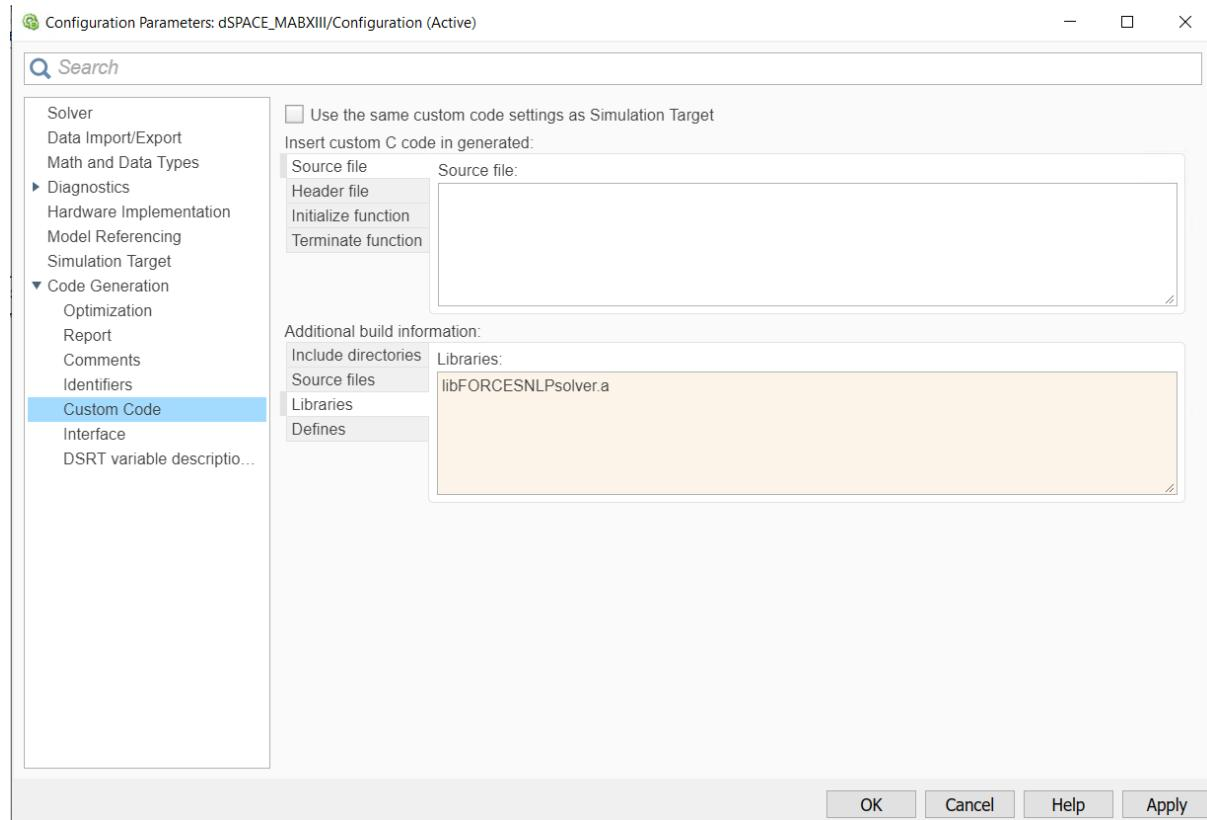

Figure 13.68: Add the libraries used for the code generation.
- 12) In the “Code Generation/Custom Code” tab, add the library file (see Figure 13.68):